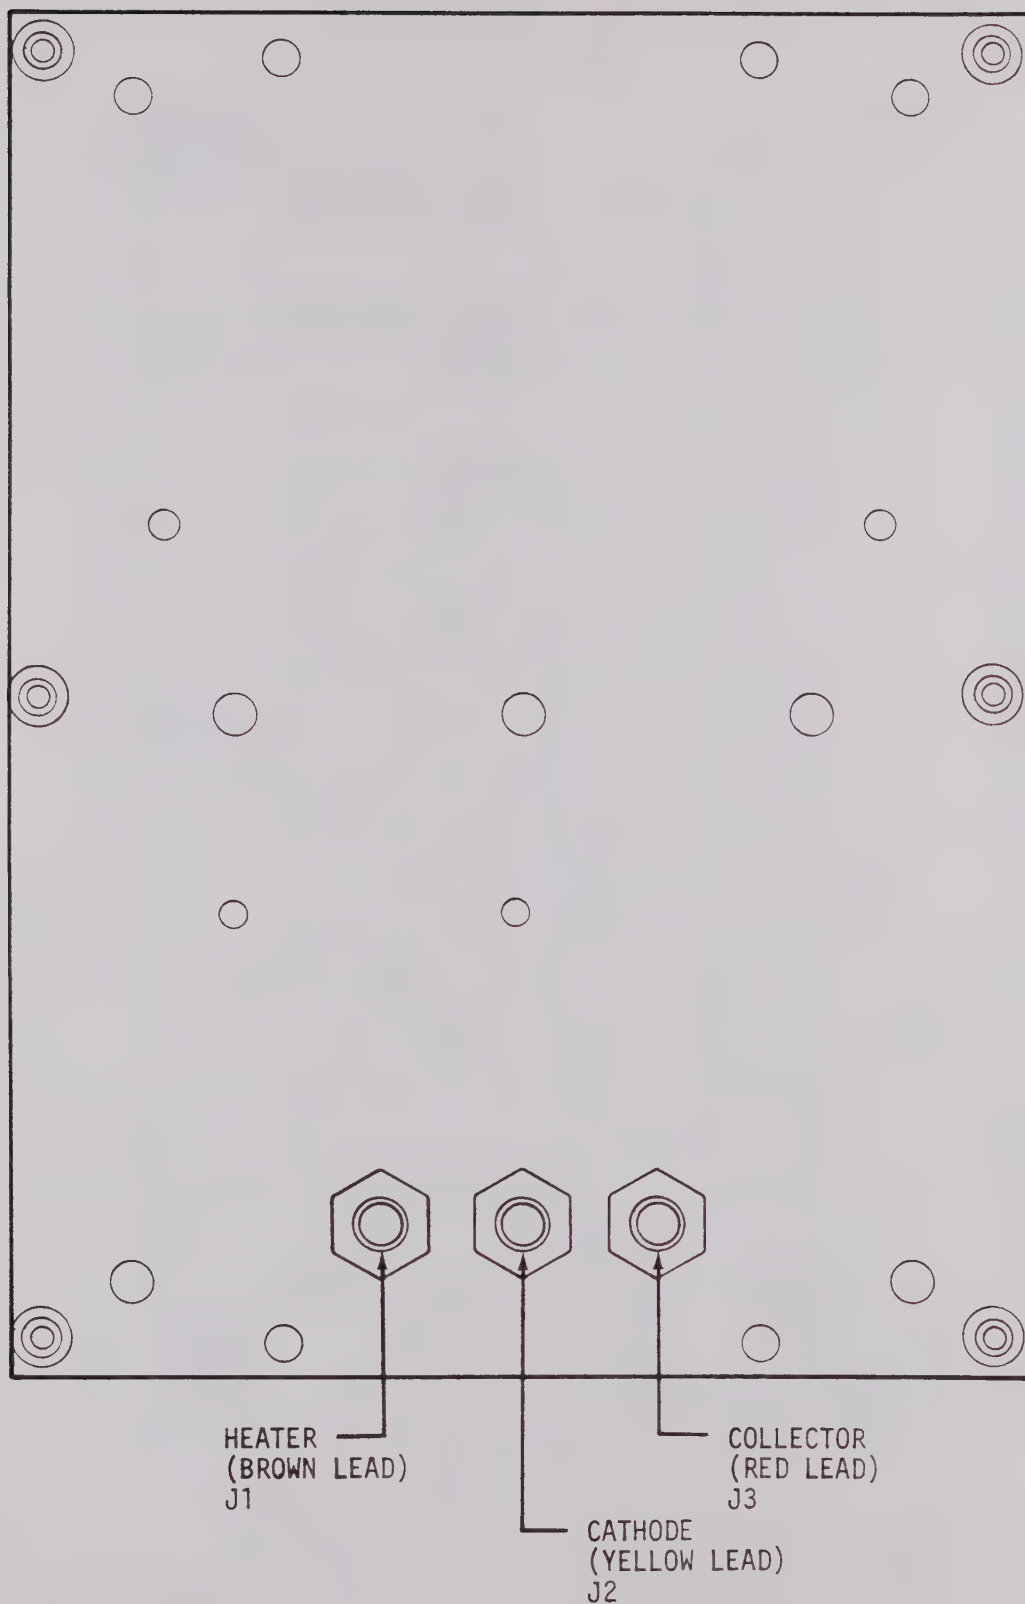

FIGURE 6-9 HV MODULE A5 CONNECTIONS
- d. Install the High Voltage Monitor by inserting plugs P1, P2, P3 on the High Voltage Monitor into the HV Module A5. (Figure 6-9). Observe the color codes on the jacks and plugs as follows: